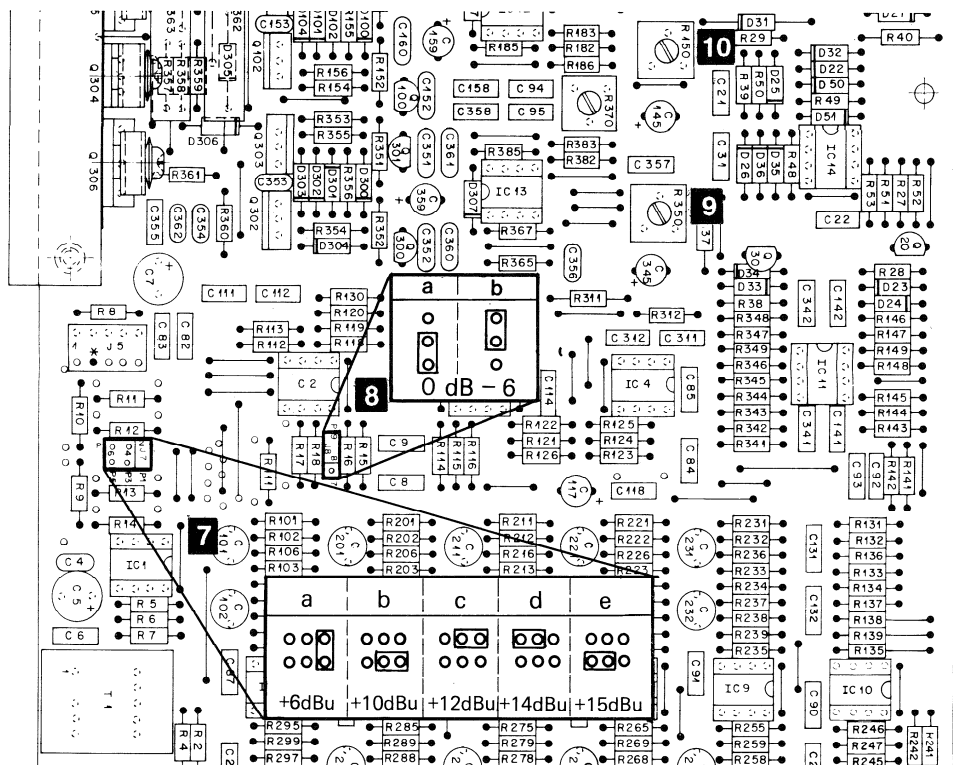
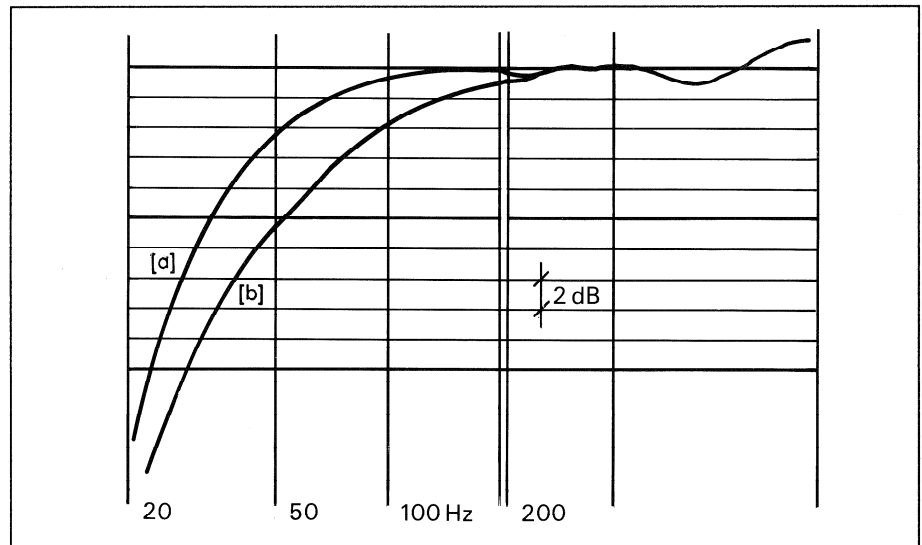

Fig. 2.4
Fig. 2.5
- Jumper nr. 8** Jumper for de-emphasizing the bass by 6 dB (50 Hz); Fig. 2.4, Fig. 2.5.
- Potentiometer nr. 8,9** The two potentiometer (R150 and R350) are for treble or bass level matching, service setting, not suited for tone control. (Fig. 2.4).